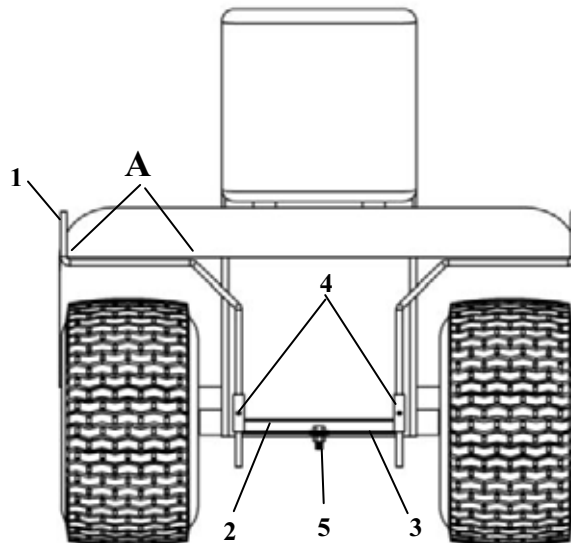

Figure 2
Insert the rear support rods (fig.2, item 1), the longest end into tow hitch support or the counterweight support (item 2).
Adjust the horizontal section of the rear rod support (fig.2, item A), so it is located 1/8" below the mud guard and 1" behind the mud guard.
Once installation is complete, adjust the cab by pulling the rear support rods (fig.2, item 1) toward the back to achieve a snug fit.